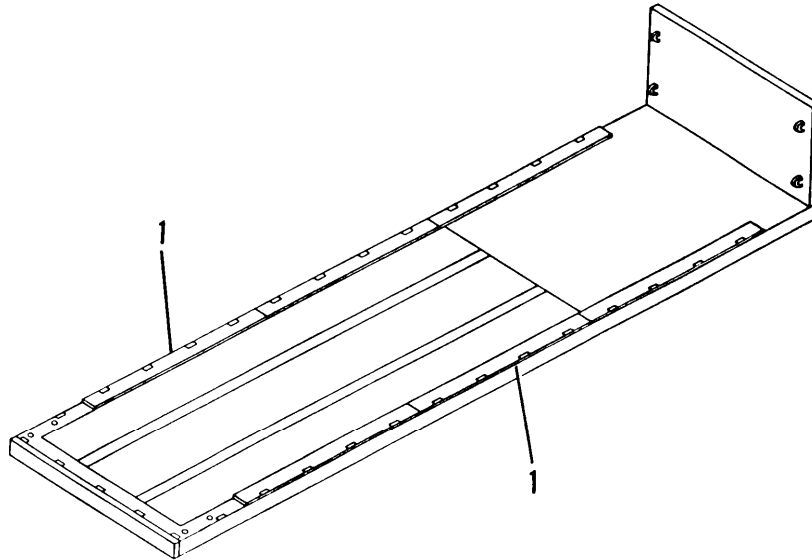

Figure 2-13. Hole Cover Plates
a. The removable cover plates (1, fig. 2-13) are listed within the Additional Authorization List (Appendix C) and are used in conjunction with side panels, side stakes and spreader chains when transporting ammunition and using wooden dunnage (blocking and bracing) to restrain the load. The cover plates are used to close the apertures in the vehicle side rails.